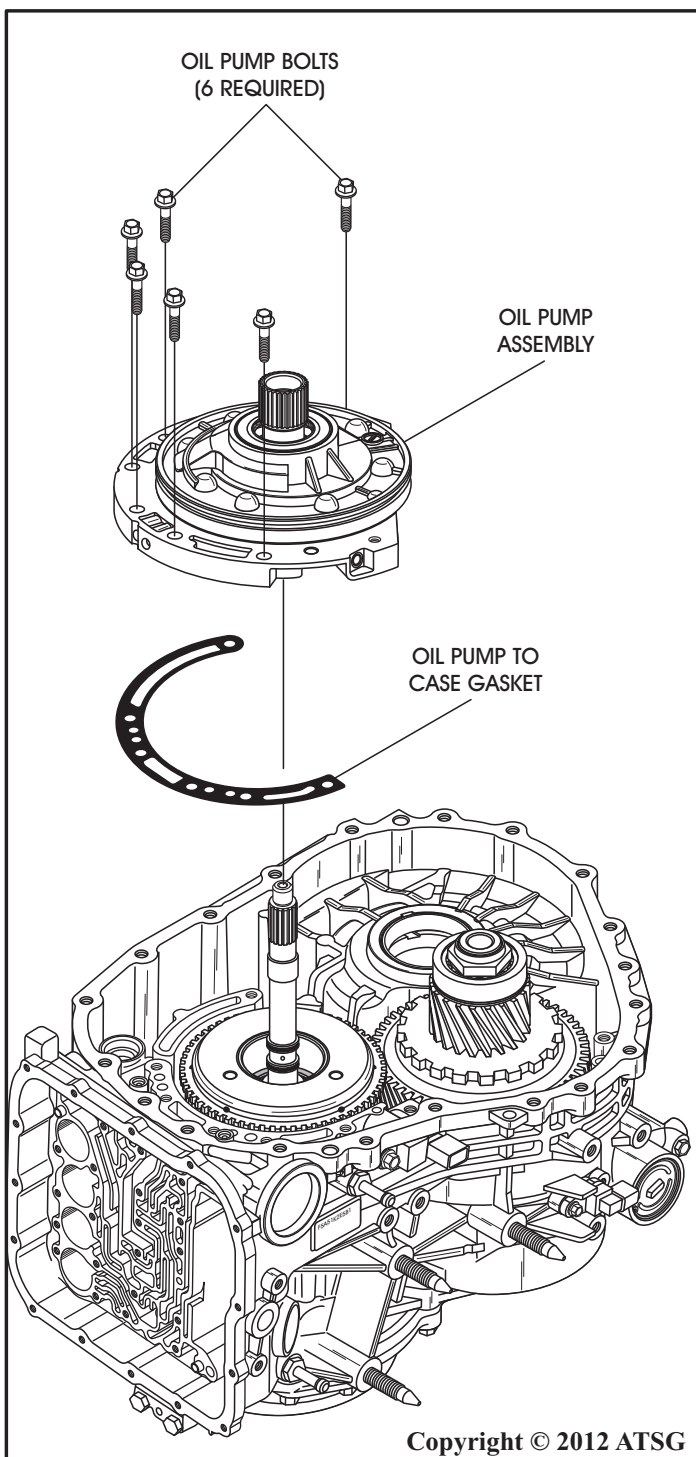

Figure 67
27. Remove the six oil pump retaining bolts, as shown in Figure 67, and remove the oil pump assembly.
28. Remove and discard the oil pump to case gasket, as shown in Figure 67.